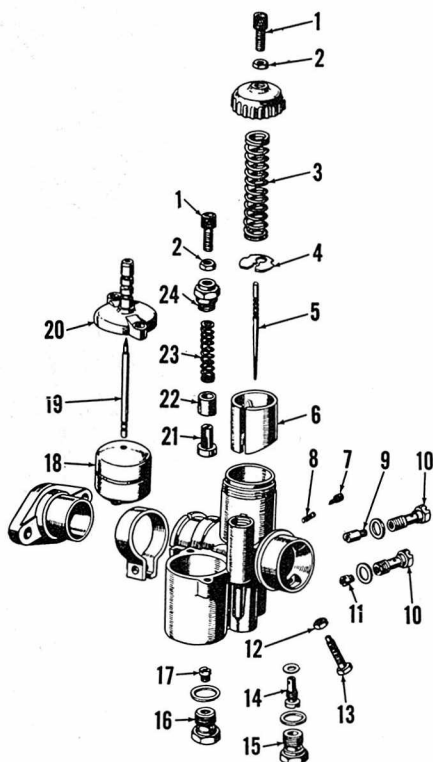

Fig. W1—Exploded view of carburetor used on 250cc models.
**CARBURETOR.** Refer to Fig. W1 for exploded view of carburetor. Main jet (11) size is 1.25 MM, idle jet (9) is 0.35 MM and needle jet (14) is 2.70 MM. Clip (4) should be installed in third groove from top of needle (5). Idle speed is adjusted to 500-600 rpm at stop screw (13). Idle mixture is adjusted at needle (7) on right side of carburetor.